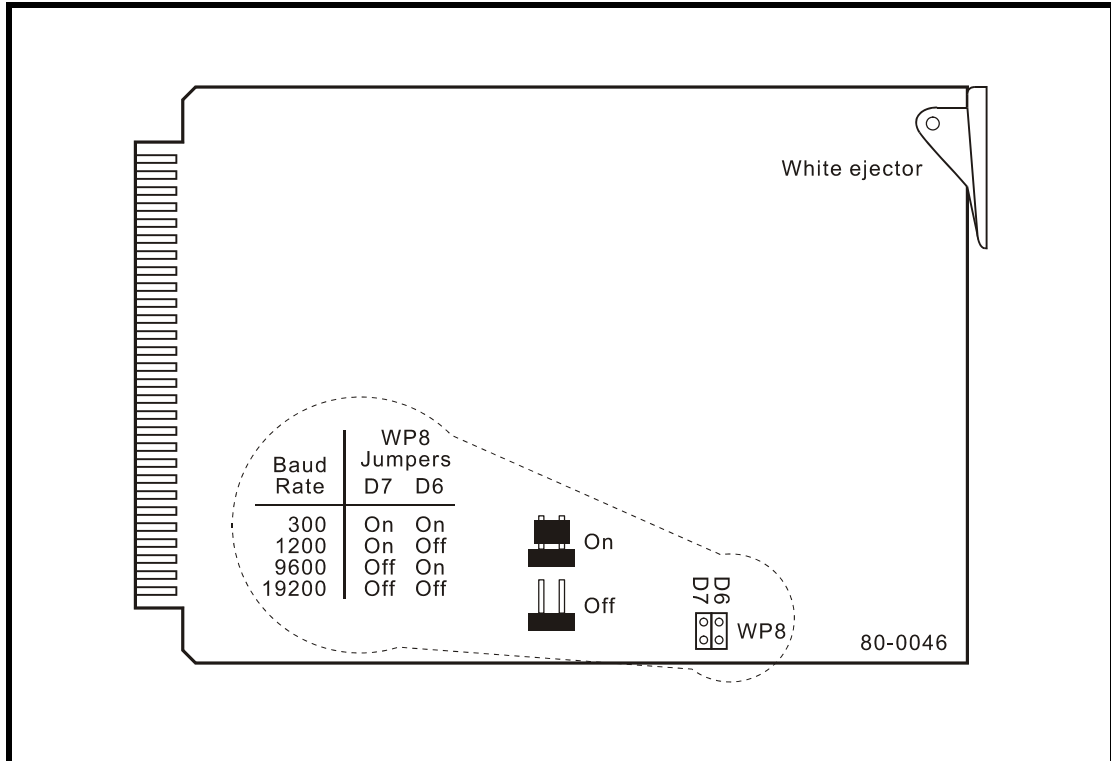

Figure 8 - Port 2 Baud Rate Settings, 80-0046 CPU PCB
3. Set the appropriate WP8 jumpers as illustrated in Figure 8.